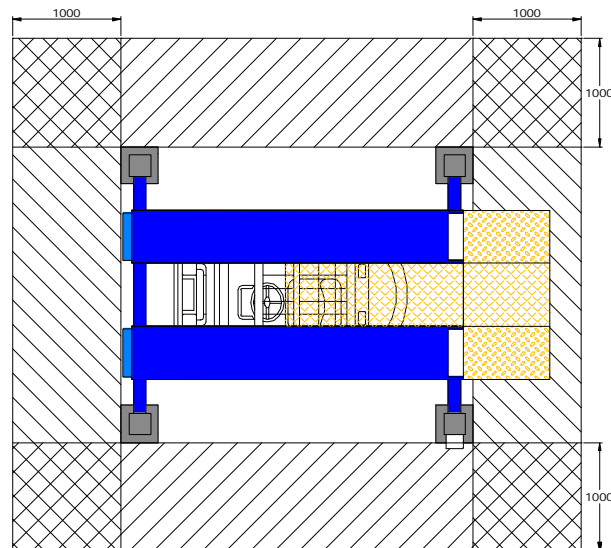

fig. 1
THE PRESENCE OF PERSONS INSIDE THE DANGER ZONE (fig. 1) IN THE SAME FIGURE IS STRICTLY PROHIBITED. THE PRESENCE OF PERSONS BENEATH THE VEHICLE DURING OPERATIONS IS PERMITTED ONLY WHEN THE VEHICLE IS PARKED IN THE ELEVATED POSITION.
The safety zone (fig. 1) is to some extent determined by the dimensions of the vehicle to be lifted.
During lifting- and lowering movements, the operator must be within the zone of operation (1), as shown in **fig. 1**. The presence of any person in the safety zone (2) is strictly forbidden. The presence of persons under the vehicle is only permitted if the vehicle is parked and locked in the lifted position.